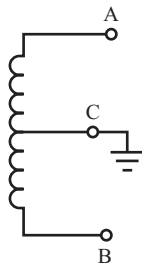

FIGURE 10.14
7. In the center-tapped secondary winding shown in Figure 10.14, the voltage between points A and B may be expressed as  $V_{A-B} = 28 V_{pp}$ . What is the voltage between C and A? \_\_\_\_\_
8. In the center-tapped secondary winding shown in Figure 10.14, the voltage between points B and C is  $V_{B-C} = 5 V_{rms}$ . What is the peak-to-peak voltage between A and B? \_\_\_\_\_